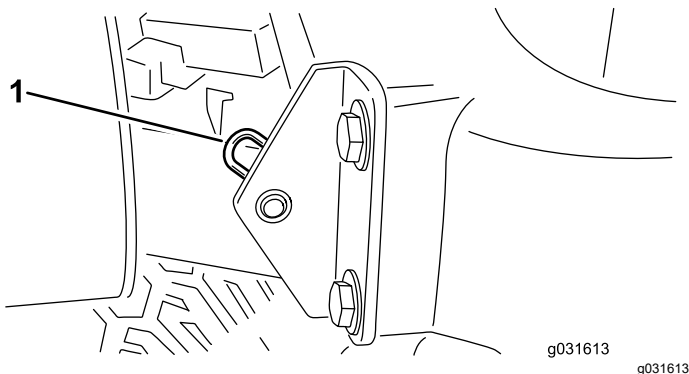

Figure 30
2. Remove the hairpin cotter securing the hood pivot to the mounting brackets (Figure 30).